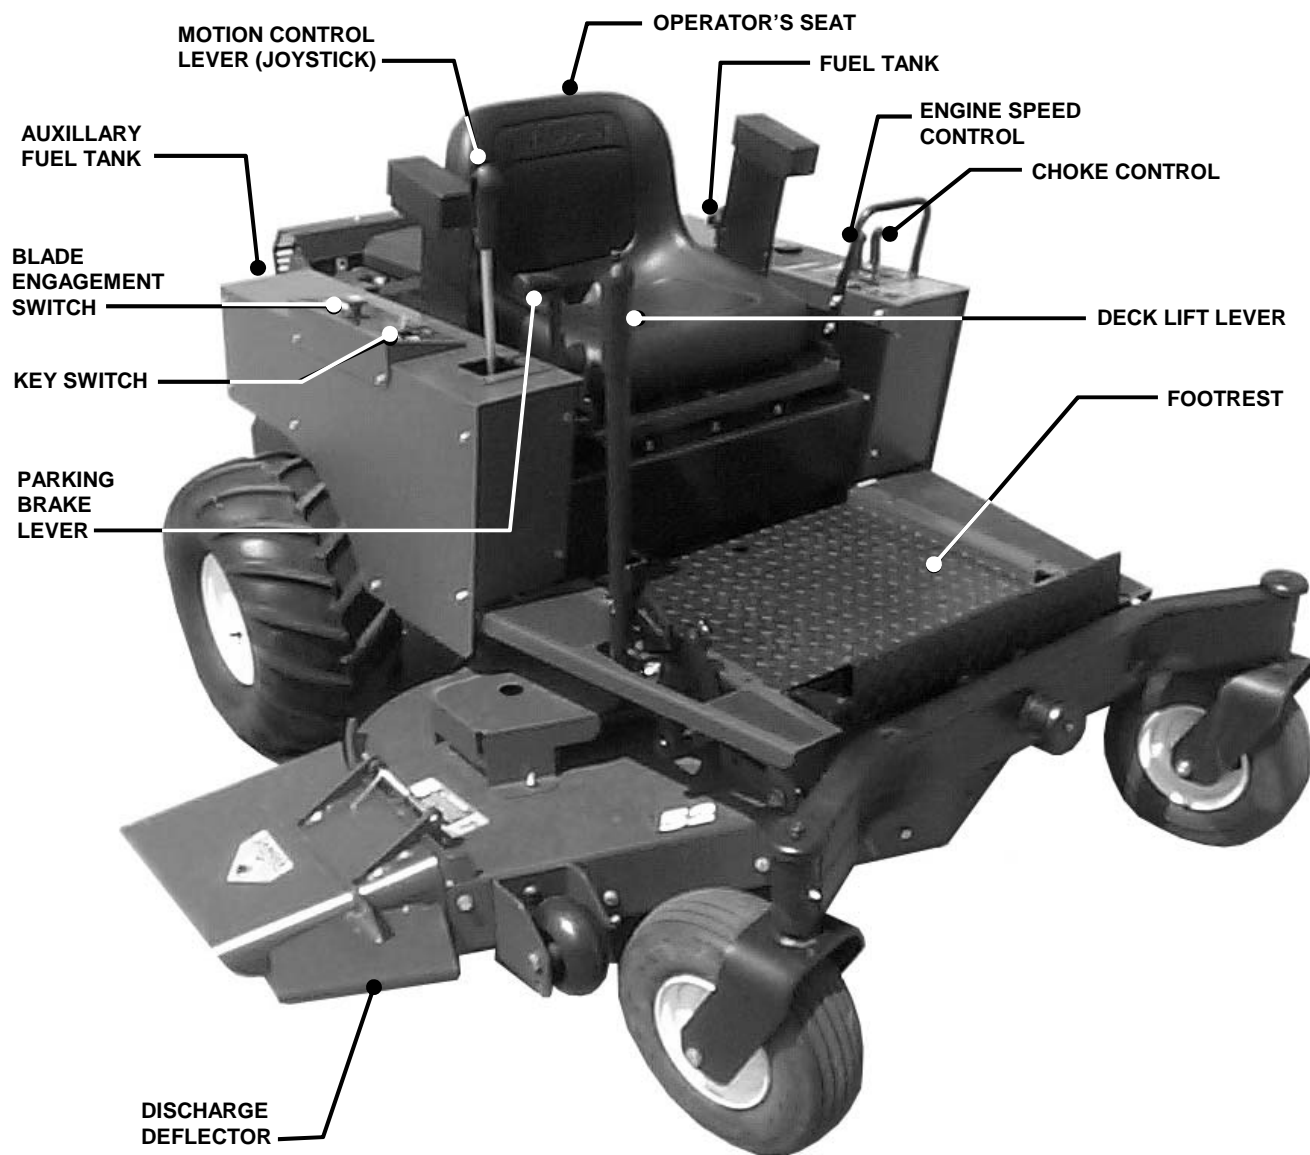

FIGURE 1.1
The nomenclature information above, Figure 1.1, shows the essential parts of the SNAPPER MID MOUNT Z-RIDER. It is recommended that all operators of this equipment become thoroughly familiar with the controls, components, and operation of this machine before operating. Specific details involving the engine are found in the separate engine owner's manual. Study these manuals before operating and keep both handy for future reference. For the nearest SNAPPER dealer in your area, check the yellow pages under the heading LAWN MOWERS. For engine parts and service, look for the engine manufacturer's dealers under the heading, ENGINES - gasoline.
3.1.8. Place mower in desired cutting height setting. Grasp deck lift lever and depress release button located at tip of lever. Move lever to desired setting, 1 thru 7, and release latch. See Figure 1.1.